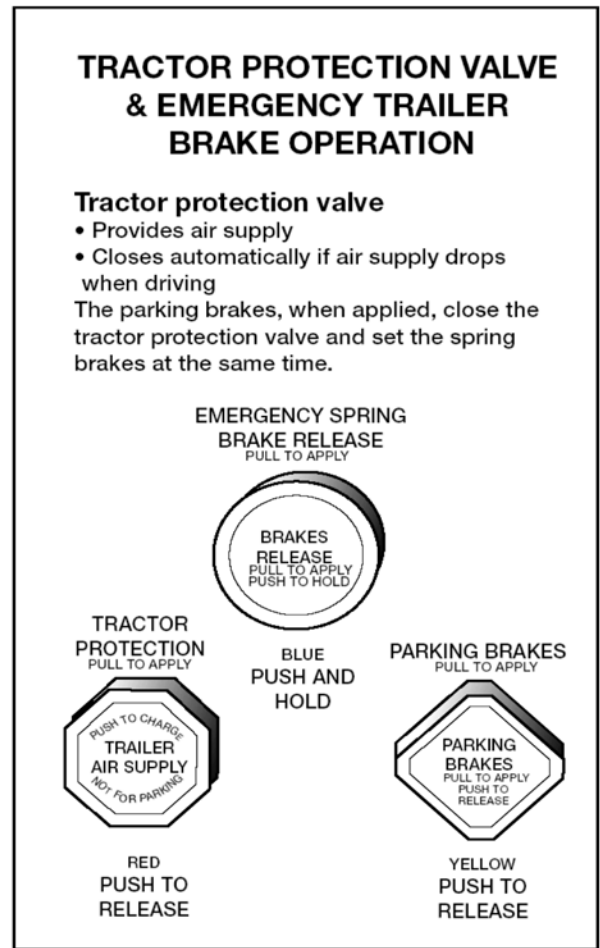

Figure 5.3
**Dual Parking Control Valves:** When main air pressure is lost, the spring brakes come on. Some vehicles, such as buses, have a separate air tank which can be used to release the spring brakes. This is so you can move the vehicle in an emergency. One of the valves is a push-pull type and is used to put on the spring brakes for parking. The other valve is spring loaded in the "out" position. When you push the control in, air from the separate air tank releases the spring brakes so you can move. When you release the button, the spring brakes come on again. There is only enough air in the separate tank to do this a few times. Therefore, plan carefully when moving. Otherwise, you may be stopped in a dangerous location when the separate air supply runs out. (See Figure 5.3.)